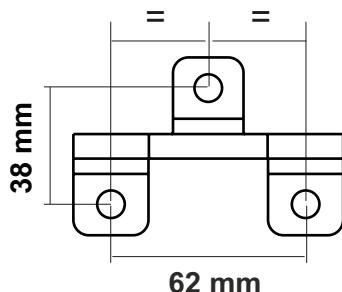

Fig. 31
- Anyway, refer to the drilling table shown in Fig. 31